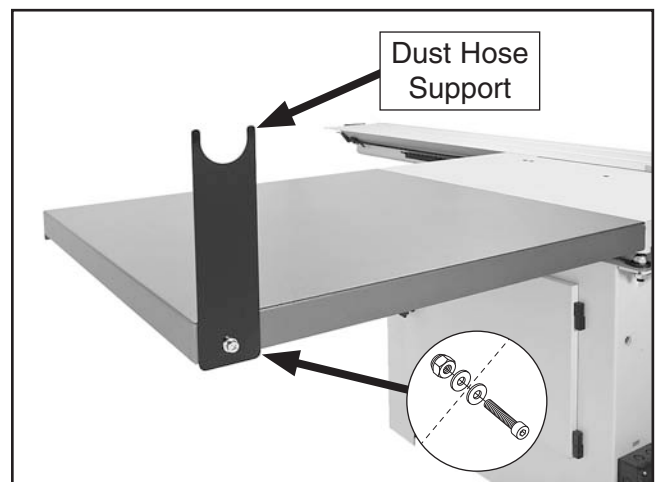

Figure 31. Dust hose support attached.
32. Attach the dust hose support to the left side of the rear extension wing with (1) M10-1.5 x 25 cap screw, (2) 10mm flat washers, and (1) M10-1.5 lock nut, as shown in **Figure 31**.